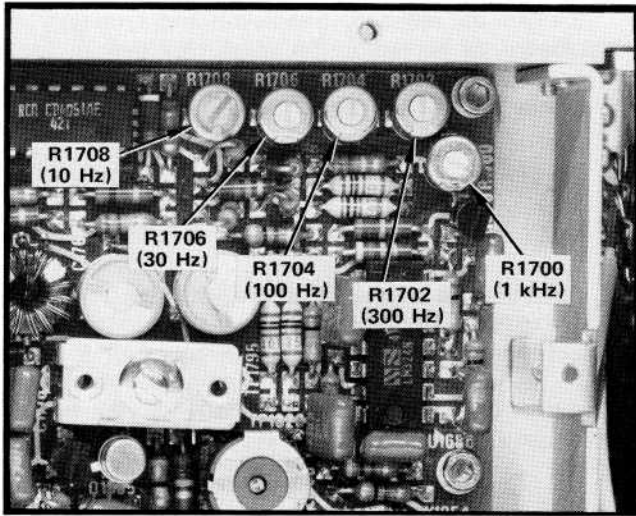

Fig. 4-18. Bandwidth adjustments for Variable Resolution Amplifier.
g. Calibrate the resolution bandwidth (6 dB down) for the 1 kHz to 30 Hz RESOLUTION positions by decreasing the resolution bandwidth and FREQUENCY SPAN/DIV settings sequentially and adjusting the respective bandwidth with R1700 (1 kHz), R1702 (300 Hz), R1704 (100 Hz), and R1706 (30 Hz). See Fig. 4-18 for adjustment locations.
h. Switch the RESOLUTION to 10 Hz. Adjust the 10 Hz bandwidth with R1708 (Fig. 4-18) so the bandwidth, 70 dB down, is 100 Hz  $\pm$  20 Hz.